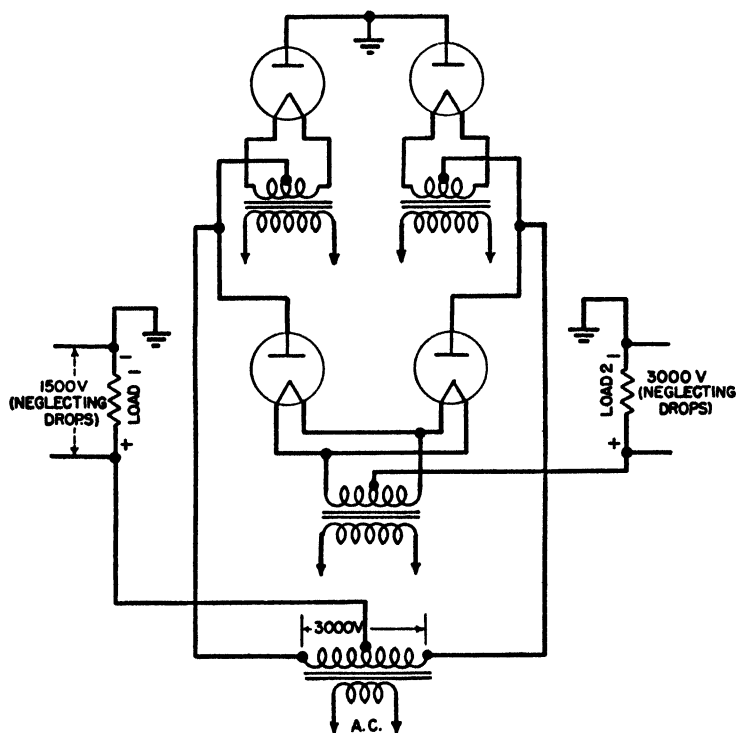

FIG. 4-16.—Balanced single-phase full-wave rectifier.
*Ans.* Figure 4-16 illustrates a full-wave bridge rectifier for double voltage supply.